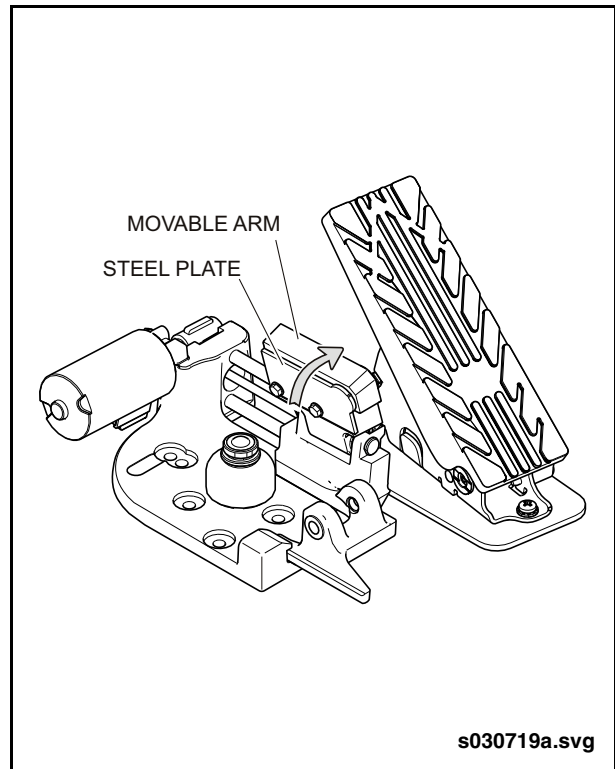

Fig. 1: Moveable Arm Inspection
2. With the brake treadle removed, rotate the moveable arm up such that it sits in a nearly vertical position and the steel plate on the underside is easily visible. See “Fig. 1: Moveable Arm Inspection” on page 3.